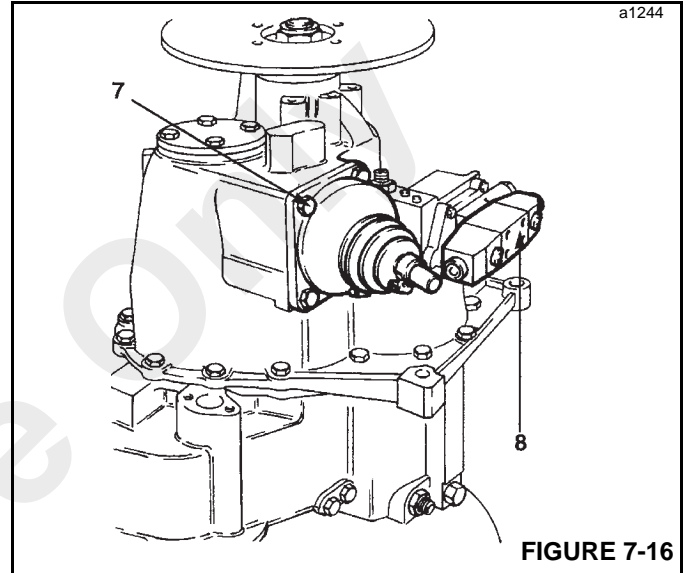

**FIGURE 7-15**
3. Unscrew bolts (3, Figure 7-15) and remove the pump (5).
4. Remove and discard pump sealing ring (4).
5. Separate pump components (5).
6. Remove and discard oil seal (6) from pump housing.